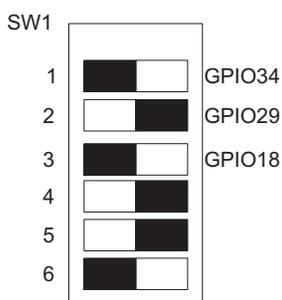

Figure 2. Boot to SARAM Switch 1 Configuration on eZdspF2808
- Step 7. Configure the Boot Mode pins on the eZdsp board (SW1 positions 1-3 on eZdspF2808) for "Boot to SARAM" mode (factory default for eZdspF2808). Figure 2 demonstrates the Boot Mode pin configuration for "Boot to SARAM" mode on the eZdspF2808.